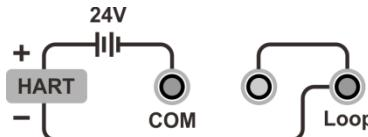

Figure 8 HART-External power and internal resistance
- 2) The connection method of external power supply and internal resistance is shown in Figure 8;